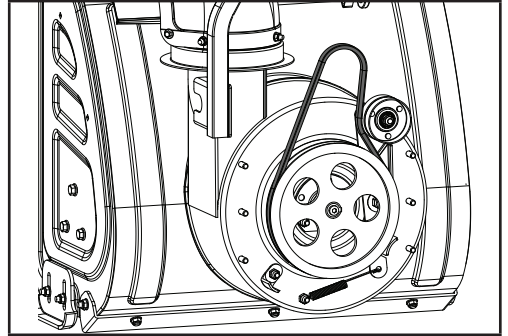

Figure 45
8. Slip the drive belt off the pulley. Remove and replace the belt in reverse order ensuring that the new belt is below the spring loaded idler pulley (Fig. 45).